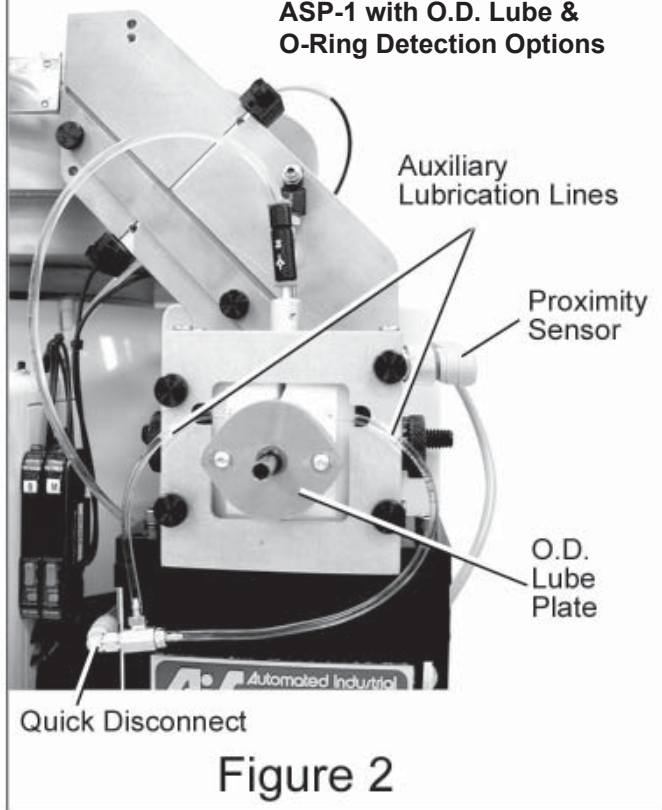

Figure 2
- 4) For machines equipped with O.D. Lube, disconnect Auxiliary Lubricant Lines using the quick disconnect. To prevent lube from leaking from the lines insert red plug (provided in Maintenance Kit) into the connector. Remove O.D. Lube Plate from nose of Stripper Jaws by removing the 2 screws on the plate. *(Fig. 2 page 12)*
- 6) For machines equipped with O-Ring Detection, unscrew the Proximity Sensor located on the side of the Stripper Jaws. *(Fig. 2 page 12)*
For machines with O.D. Lube, replace the O.D. Lube Plate using the 2 screws. Note: Do not overtighten the screws. The Plate should be able to move from side to side and there should be a small gap between the Plate and the nose of the Stripper Jaws. *(Fig. 2 page 12)*
- 13) For machines equipped with O-Ring Detection, reconnect the Proximity Sensor to the side of the Stripper Jaws. (*Fig. 2 page 12*)